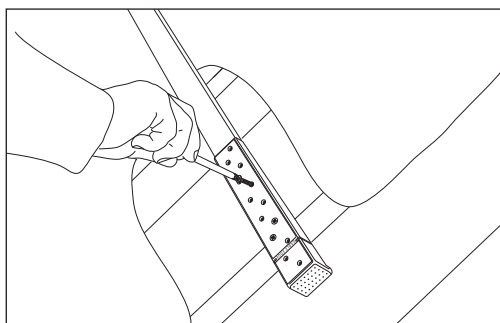

Fig 1 Fit batten extension unit using line moulded into top of unit as a guide
- 5 Fit batten extension units onto the ends of tiling battens, using line moulded into top of unit as guide, so that they overhang gable end by 50mm (Fig 1).